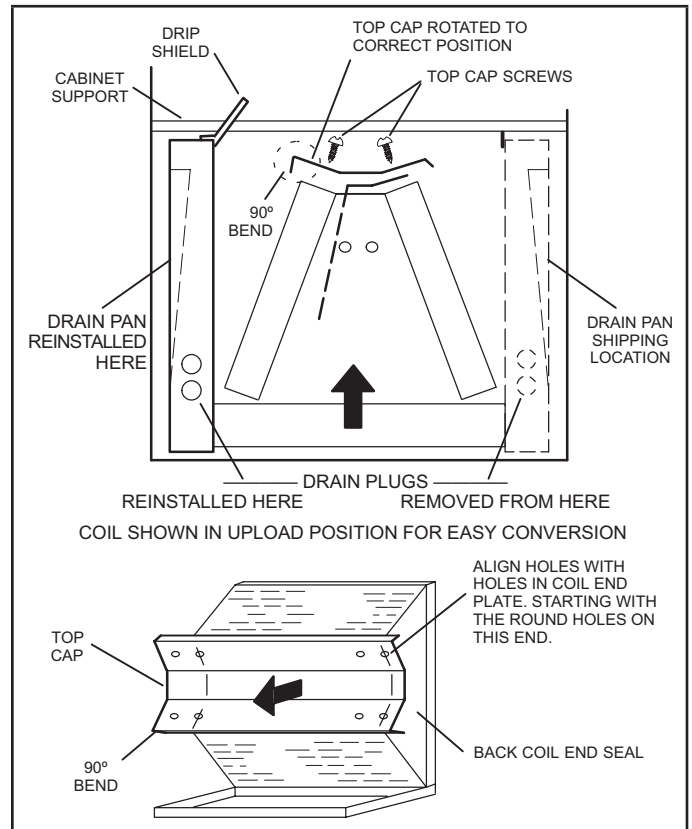

FIGURE 6. Field Modification for Left-Hand Discharge
- 5 - Remove screws from top cap. Remove horizontal drip shield screw located in the center of the back coil end seal as illustrated in figure 6.
- 8 - Rotate top cap 180° front-to-back and align with unused screw holes. Holes must align with front and back coil end plates. The top cap has a 45° bend on one side and a 90° bend on the other. **The 90° bend must be on the same side as the horizontal drain pan** as illustrated in figure 6.
- 9 - From the upflow position, flip cabinet 90° to the left and set into place. Replace blower assembly. Secure coil in place by bending down the tab on the cabinet support rail as illustrated in figures 6 and 7.
- 10 - Install the horizontal drip shield (-060 model) on the front edge of the horizontal drain pan as illustrated in figure 6.